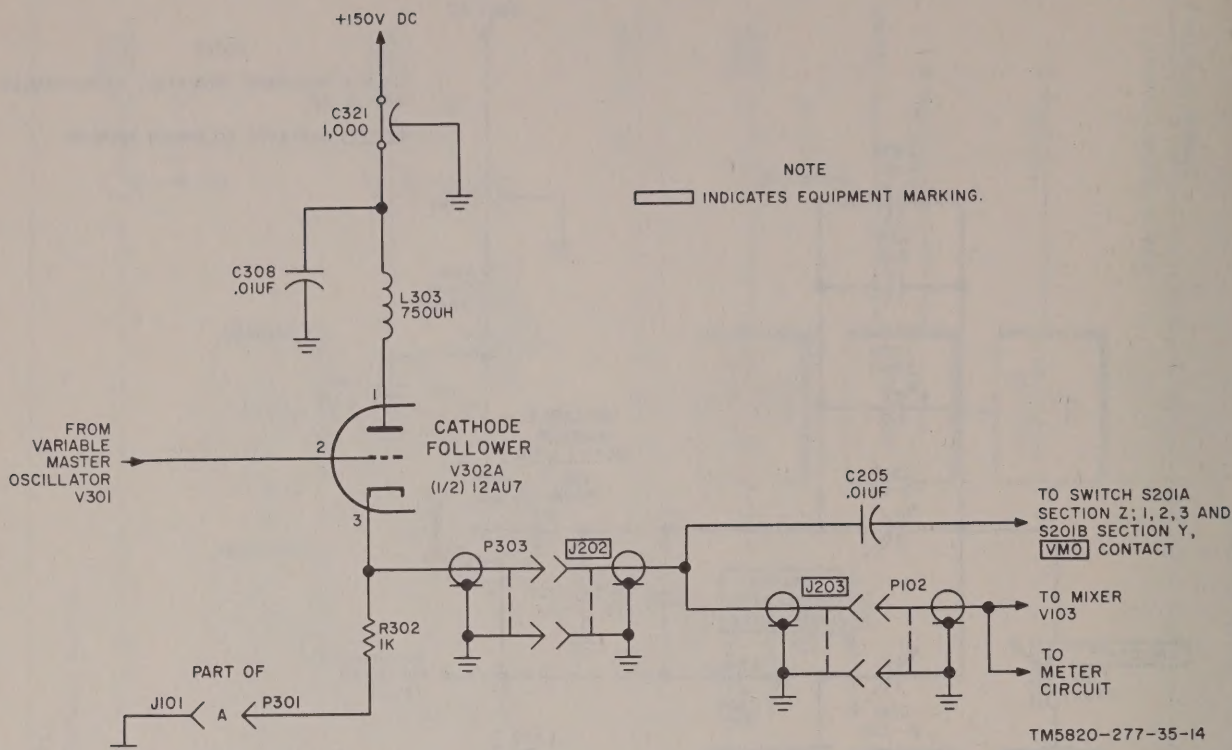

Figure 3. Cathode follower V302A, schematic diagram.
4. Cathode Follower V302A (fig. 3)